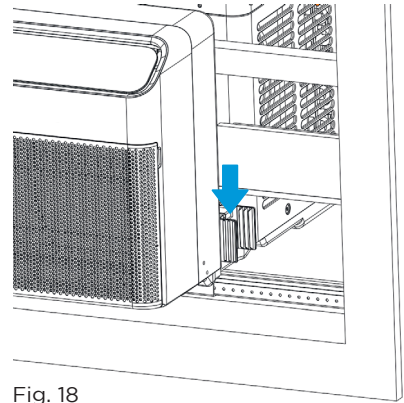
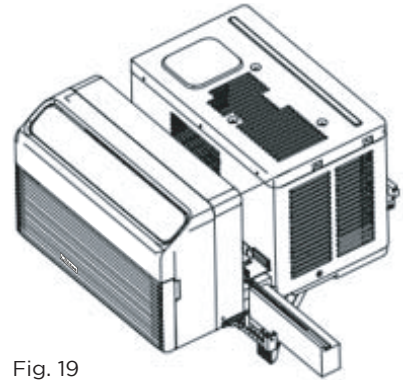

Fig. 18
Fig. 19
D. In figure 18, the blue arrow points to the spot where the foam should be installed. Figure 19 shows the final installed position of the foam.